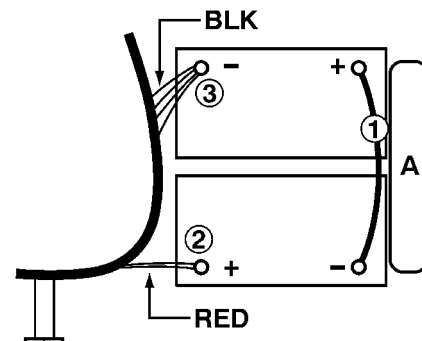

FIG. 2
3. Carefully install batteries into compartment and arrange battery posts as shown (Figure 2).
4. To secure batteries, place white PVC tube spacer "A" behind batteries in compartment (Figure 2).
5. Connect cables to battery posts in numerical order as labeled (RED to POSITIVE and BLACK to NEGATIVE) (Figure 2).